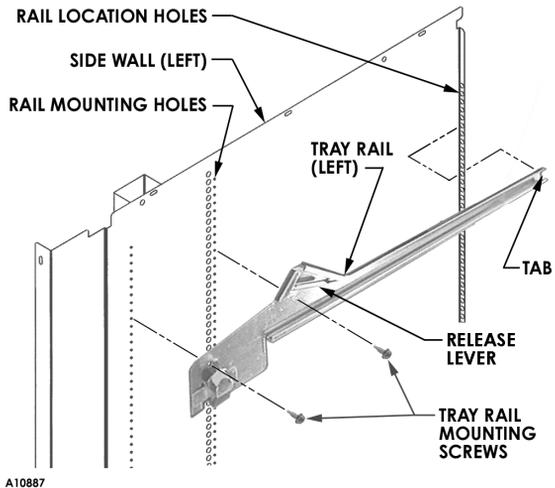

Figure 8. Tray Rails
6. Locate the release lever on the left and right tray rails. See **Figure 8**. Swing the release levers all the way up to unlatch.
- B. Pull each rail forward to disengage its rear tab from the hole in the rear wall. See **Figure 8**.